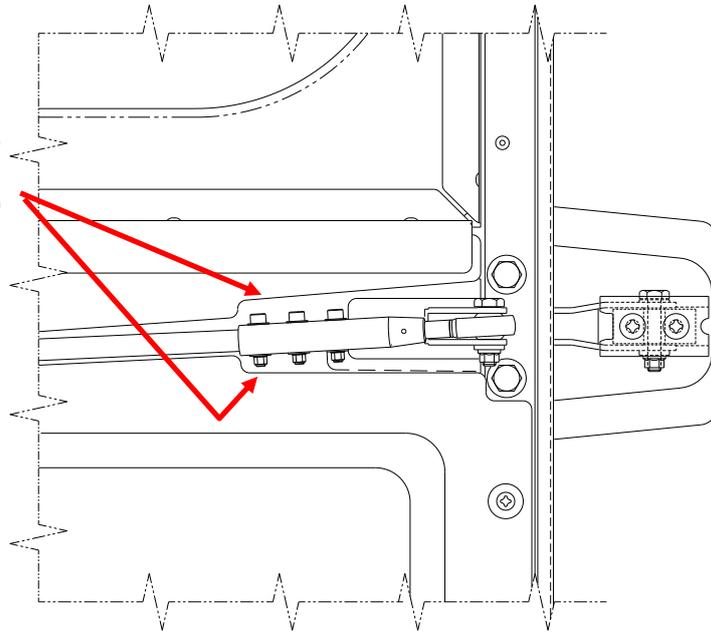

Figure 16: Door Trim Clearance
4. Assemble FWD Fitting (Item 9-A) and rod end (Item 9-B) as shown in Figure 10, then connect the rod as detailed in Figure 11 and Figure 13. Check for clearance and make any required adjustments as detailed in Figure 14 to Figure 16.
7. If needed, increase cut-out size in interior trim as shown in Figure 16.